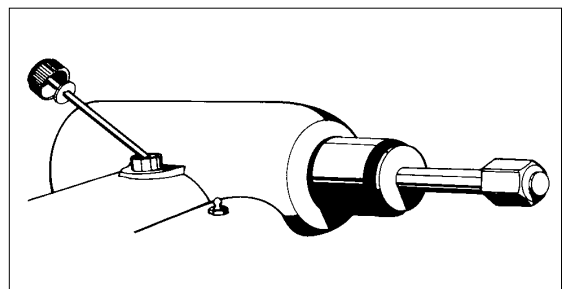

Figure 2 - Check oil level
7. Remove the shipping plug, insert the oil dipstick, and check oil level. The lathe is shipped with the correct amount and type of oil. Add oil as necessary to reach the correct mark on the dipstick. Use only EP-80-90 gear oil. Oil level should be checked often. See figure 2.